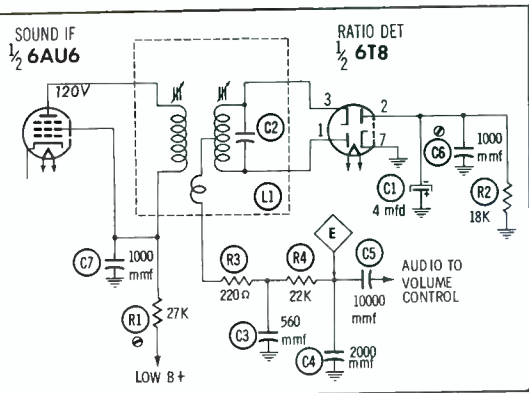

Fig. 4. Output of ratio detector circuit is developed across capacitor C3.
A typical modern ratio detector (Fig. 4) differs from a discriminiator in a number of circuit details. One of the most noticeable differences is that the cathode (instead of the plate) of the upper diode is connected to the transformer. Effectively, then, both diodes are connected in series across the electrolytic capacitor C1. They both conduct on the same alternation of the input signal, thus charging to virtually the peak value of the signal voltage. Due to the large capacitance of C1, the combination of C1 and R2 has a very long time constant—equal to many cycles of the sound IF signal. Consequently, the charge on C1 remains at very nearly the established peak value, and the total voltage across both diodes remains nearly constant as long as the average strength of the input signal does not change. This is quite an important point, because it explains the ratio detector's ability to "ignore" amplitude modulation in the sound IF signal.
Another "different" feature of the detector in Fig. 4 is its load circuit, which you may not immediately recognize because there are no matched load resistors correspond-
In the ratio detector (Fig. 4), an open condition in C6 might not be noticed; but, if C1 should open, there would be a nontunable buzz in the sound, because the self-limiting feature of the detector would be disabled. If C1 became very leaky, the voltage across the entire detector would be greatly reduced, and the audio volume would follow suit.
**Fig. 6. Response of sound detector.** IF center frequency applied to the sound IF or detector input. Fortunately, the alignment procedures and response curves are very similar for both discriminators and ratio detectors. Look at Fig. 5, and you will see a normal response curve of a sound IF amplifier, with the center frequency indicated by a marker pip at the very top of the curve. Fig. 6 shows a typical "S"-curve response pattern obtained at the output of either type of detector. To obtain this curve, connect your oscilloscope to point E in either circuit—Fig. 1 or Fig. 4. Note that the middle portion of this pattern corresponds to the "S" curve in Fig. 3.